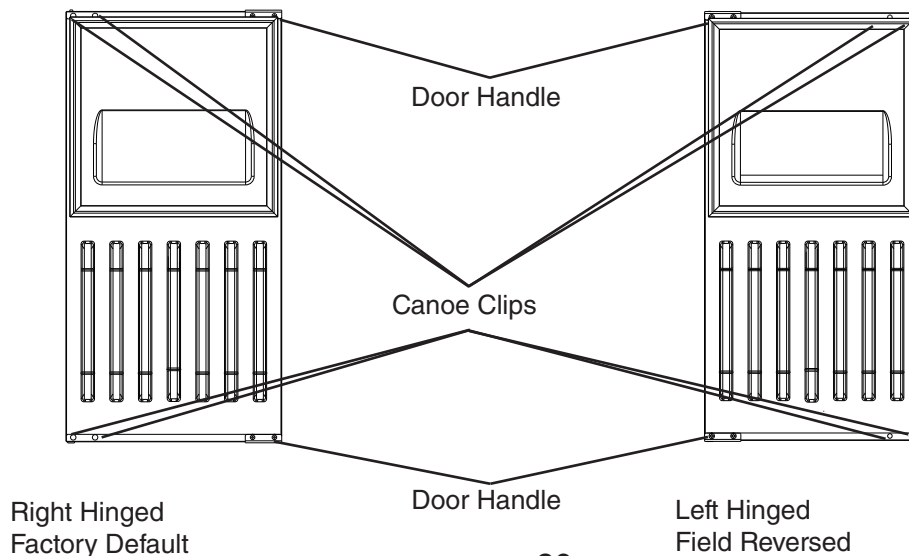

Fig. 23
- 3) Insert the 4 canoe clips included in the accessory bag into the upper and lower holes on the inside of the door opposite from the door handle. See Fig. 23.